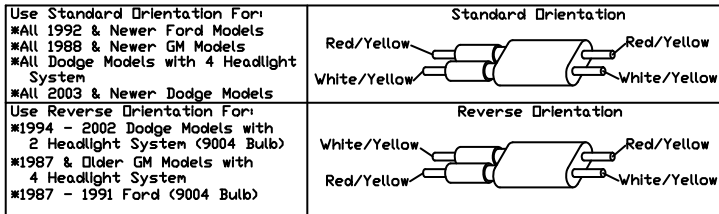

Figure 21. Vehicle Option Connector
32. Locate vehicle option connector. Align the connector so that the Vehicle Option Connector is positioned to match the vehicle it is installed on. This is illustrated in Figure 21.